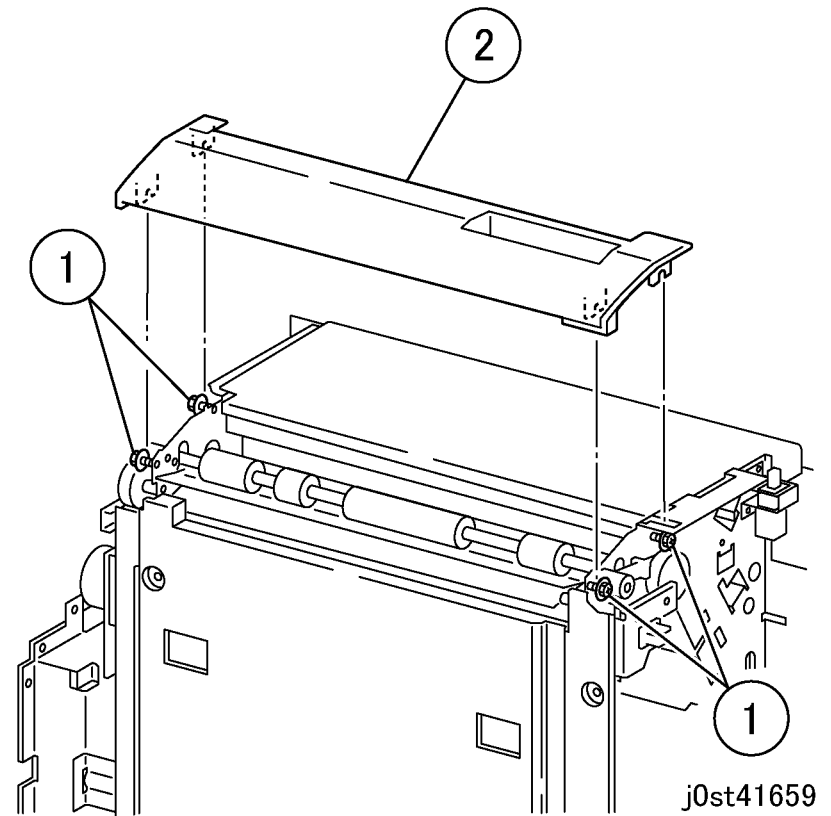

Figure 1 Removing the Top Cover
2. Remove the Top Cover. (Figure 1)